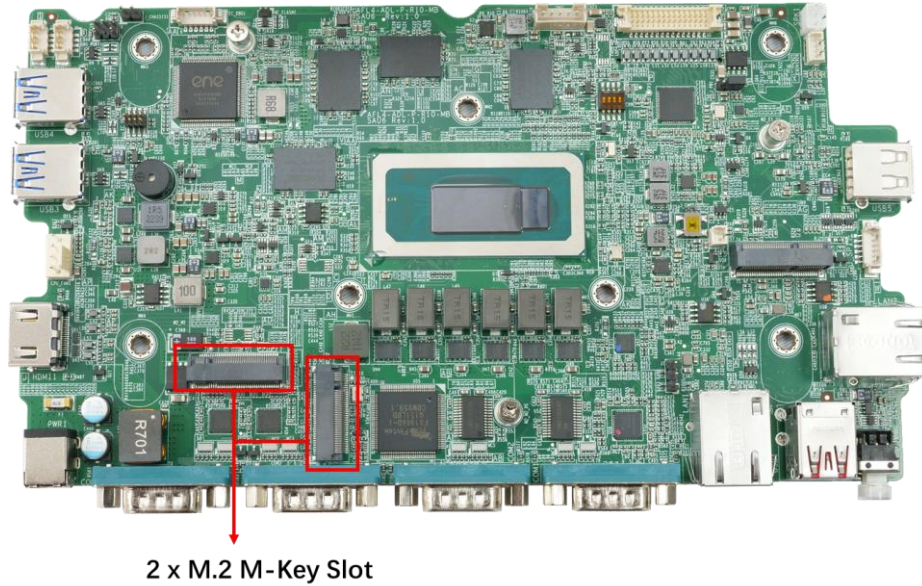

Figure 3-3: M.2 Module Slot Location
Step 2: Locate the M.2 card slot. Remove the preinstalled retention screw on the standoff of the M.2 card slot as shown in **Figure 3-3**.